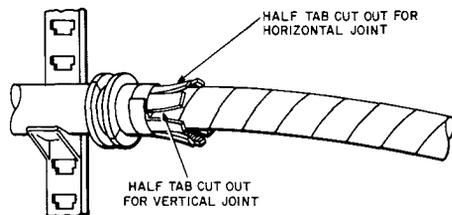

Fig. 14—Cutout for Inner Sheath Clamp Ears
3.09 If the completed splice is to be mounted with the joint between the cases horizontal, remove half of the tab on the top of the cable. If this joint is to be vertical, remove half of one of the tabs on the side of the cable. The necessary cuts should be made through any metal layers as shown in Fig. 14. This space is required for clearance of the inner sheath clamp ears.